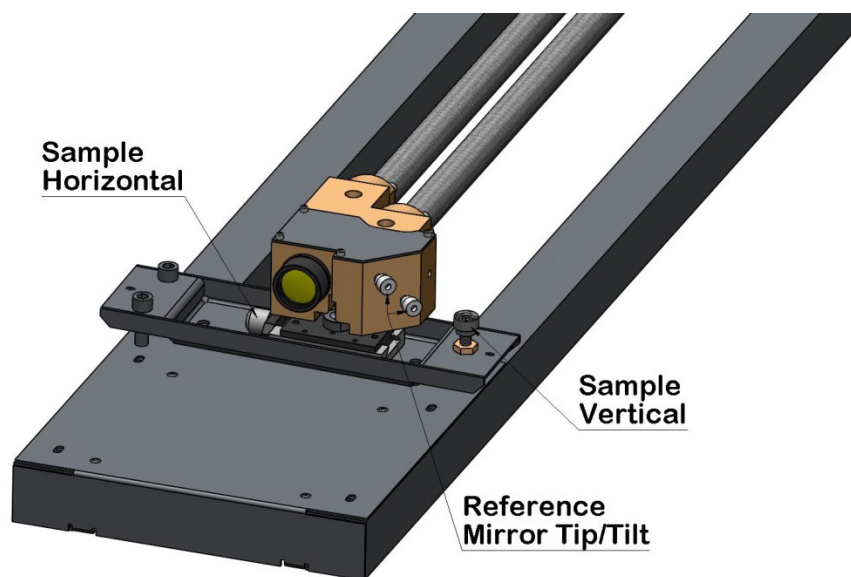
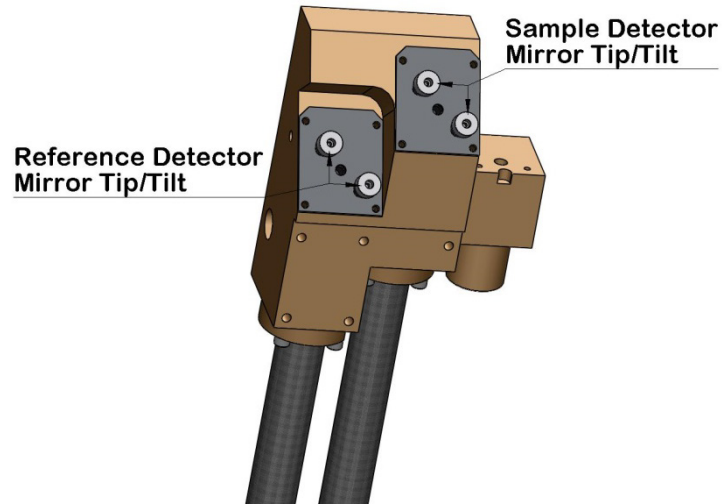
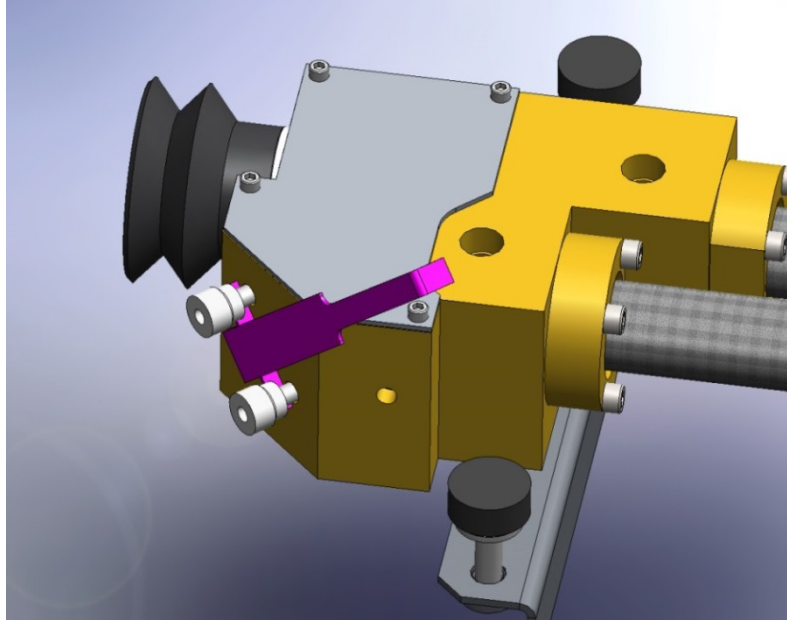

FIGURE B-5. Alignment hardware of laser end of TGA200 variants
FIGURE B-6. Alignment hardware of detector end of TGA200 variants
FIGURE B-7. Use of alignment tool for aligning mirror in TGA beamsplitter block
The TGA optical alignment does not change during normal operation, but it should be checked after transport. FIGURE B-5 illustrates the horizontal, vertical, and reference mirror tip/tilt adjustment knobs (shown with the laser removed for clarity).
FIGURE B-6 illustrates the alignment hardware at the detector end.
6. If no response is observed, use the alignment tool (pn 25897) to put the reference tip/tilt mirror and the detector mirrors at their nominal positions, as shown in FIGURES B-7, B-8, and B-9.
FIGURE B-7 shows the positioning of the alignment tool for the screws for the mirror in the beamsplitter block. The view is from the user's perspective. FIGURE B-8 shows the same scenario but from a different perspective. The figure illustrates the way that the alignment tool fits against the screws. FIGURE B-9 illustrates how the alignment tool fits against the detector tip/tilt screws. Refer back to FIGURE B-5 and FIGURE B-6 for the positioning of the mirror tip/tilt screws.
1. Adjust the horizontal position (see FIGURE B-5) to maximize the sample detector signal.
2. Adjust the vertical position (see FIGURE B-5) to maximize the sample detector signal, in the same way as for the horizontal alignment.